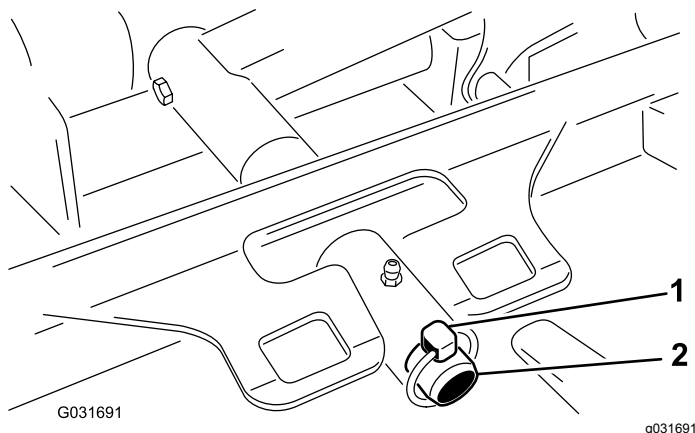

Figure 79
3. Remove the lynch pin securing the deck carrier frame to the lift arm pivot pin (Figure 79).
3. Slide the deck carrier frame onto the lift-arm pivot pin and secure it with the lynch pin (Figure 79).